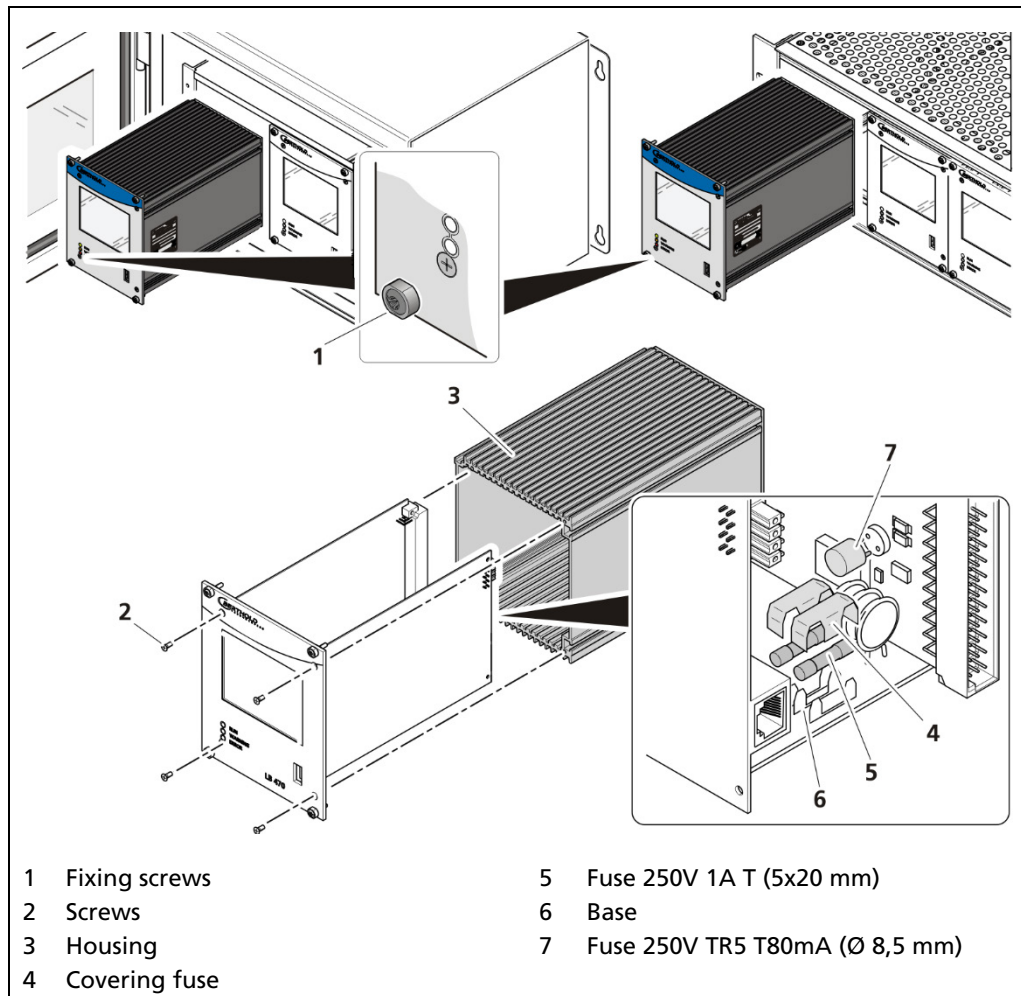

Fig. 114 Replacing fuses master EVU
2. The USB storage is recognized by the system after a few seconds and the button <Export service data> (Fig. 114, item 1) can be clicked.
3. Click on the button <Export service data> (Fig. 114, item 1).
- ▶ The process window is displayed and the export of service data will be carried out (Fig. 114, item 2).
- ▶ After successful export a confirmation message Fig. 114, item 3) is displayed. A new folder "LB47x_Export" is created.